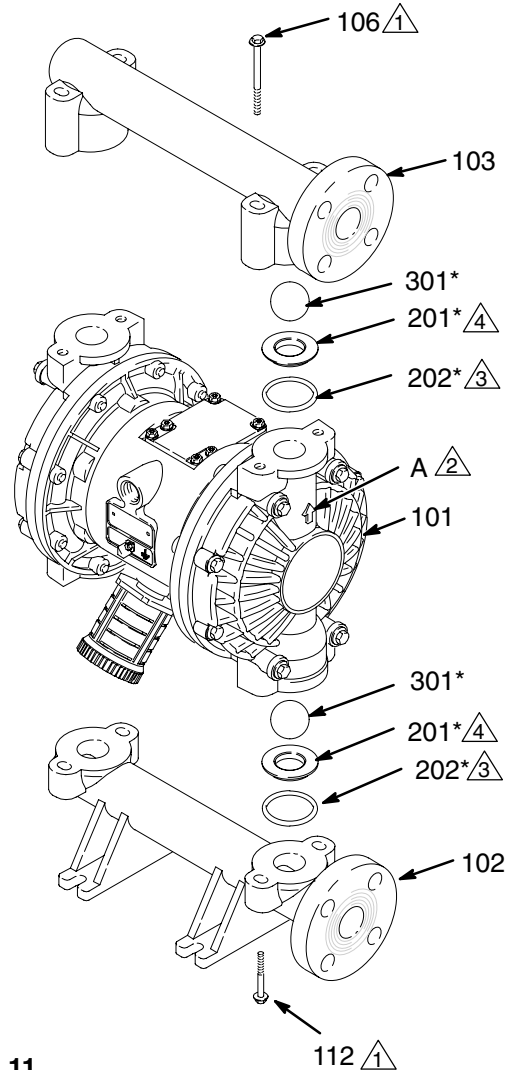

Fig. 11
3. Using a 10 mm socket wrench, remove the four bolts (106) holding the outlet manifold (103) to the fluid covers (101). See Fig. 11.
4. Remove the seats (201), balls (301), and o-rings (202) from the manifold.
2. Reassemble in the reverse order, following all notes in Fig. 11. Assemble the ball checks **exactly** as shown. The arrows (A) on the fluid covers (101) **must** point toward the outlet manifold (103).
- 2 ⚠ Arrow (A) must point toward outlet manifold (103).
- 4 ⚠ Beveled seating surface must face ball (301).